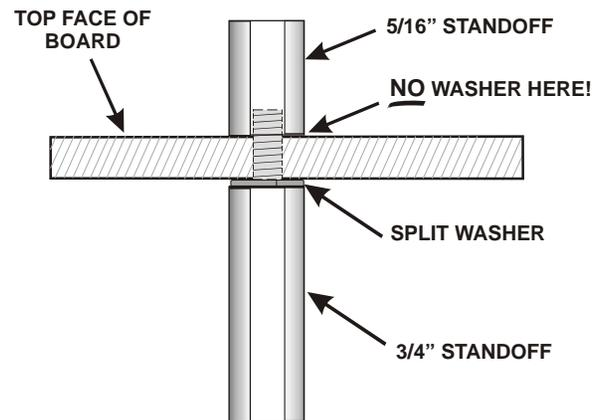

Figure 20. Installing Standoffs on Circuit Board.
- Install two pairs of standoffs in the holes at the edges of the board as shown in Figure 20. The front panel / top cover will attach to the short standoff. One pair of standoffs installs near J8 and K2 (on the bottom face of the board) and the other pair installs in the hole near J1 and P6.